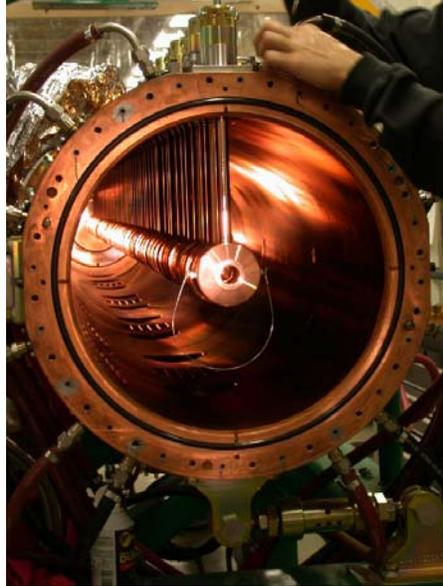

Fig. 1: All 59 drift tubes in Tank-1 are now aligned and the structure has been tuned.
Tank-1: (1) ORNL staff completed DTL Tank-1 drift tube alignment. (Fig. 1). (2) Jim Stovall and Jim Billen were at ORNL to tune the Tank-1. They completed the job in 2½ days. Final post coupler dimensions are being measured 5/23 and 5/24. Preparations are being made to complete post couplers on 5/27. Present estimates indicate a delivery date to ORNL of 6/10. (3) Slug tuner vendor is ready to receive trimming data.